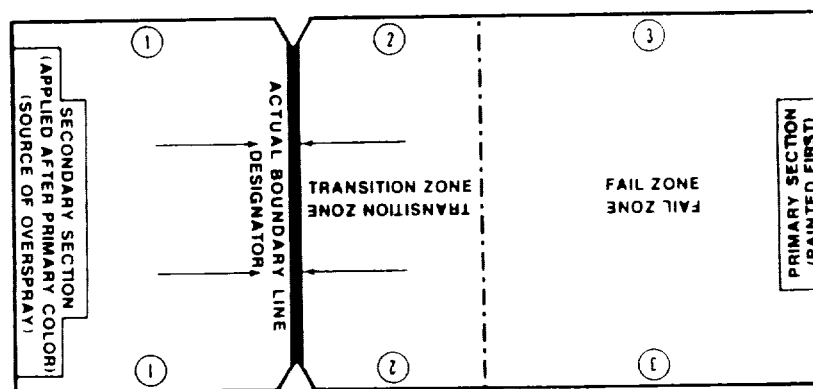

Figure 4-3. Overspray Gauge
- CPP designs, including inspection worksheet (para 4-3) and overspray gauge (fig 4-3)
- One (1) 6-foot steel measuring tape, graduated in sixteenths (or thirty-seconds) of an inch
- One (1) 6-foot steel measuring tape, graduated in tenths of an inch
In this level of inspection, the borders are examined to ensure color definition. The contrast between color areas is key to CPP effectiveness, and, for this reason, overspray of one color into another color area must be minimized to a 1-1/2 inch tolerance. An overspray gauge (figure 4-3) is used to determine whether overspray on the applied CPP is within this narrow tolerance.
b. *Overspray Gauge.* The overspray gauge (figure 4-3) is a card-like, transparent sheet of plastic with white markings (to contrast with camouflage colors) which indicate the tolerance, or 'transition' zone. The gauge is overlaid on the border area; the actual border line is then located and aligned under the gauge boundary line DESIGNATOR, and the overspray is examined. When overspray extends into the 'FAIL ZONE', the failure location is noted by marking the notches at both ends of the gauge boundary line DESIGNATOR with chalk or soapstone.
- (1) Lay overspray gauge over border, so that FAIL ZONE lays over color area applied first.
- (2) Align DESIGNATOR, or boundary line marking, as close as possible to fog/boundary transition area, so that it is just short of overlapping spray, but so that no primary color can be seen in secondary section.
- (3) Examine overspray. If it extends into FAIL ZONE, record Level II failure as follows:
- (C) Make descriptive entry in notebook for painter/contractor debriefing.